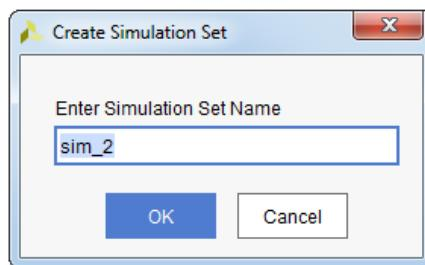

Figure 3.3: Create Simulation Set dialog box
3. In the **Create Simulation Set** dialog box, enter a name for the new simulation set or leave **sim_2** as a name and click **OK**, see Figure 3.3.